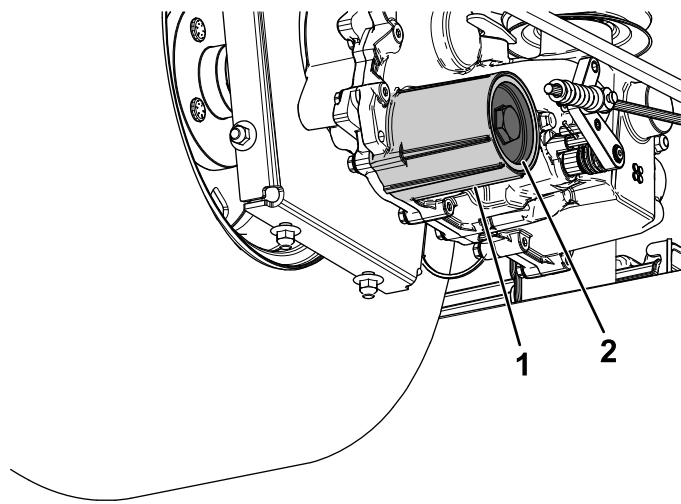

Figure 67
7. Remove the hydraulic-fluid filter cover from the transaxle to drain the fluid (Figure 67).